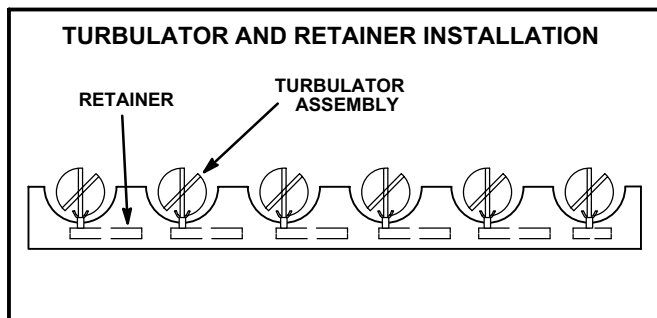

FIGURE 2
- 11 - Carefully insert turbulator assemblies into heat exchanger tubes. Orient as shown in figure 2.